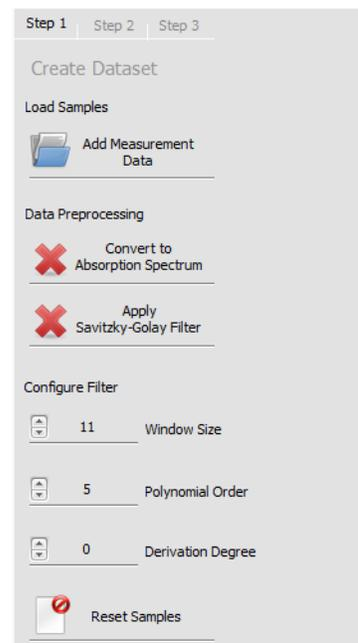

Figure 29: Classification Model Builder Step 1
Click  **Add Measurement Data** to open the **File Loader** and load your measurement data. Imported files will be displayed in the data display (A). You have two data preprocessing options to optimize class differentiation: Conversion to absorbance spectrum and Savitzky-Golay filtering. To apply an option click on the  indicator and it changes to . (Figure 29)